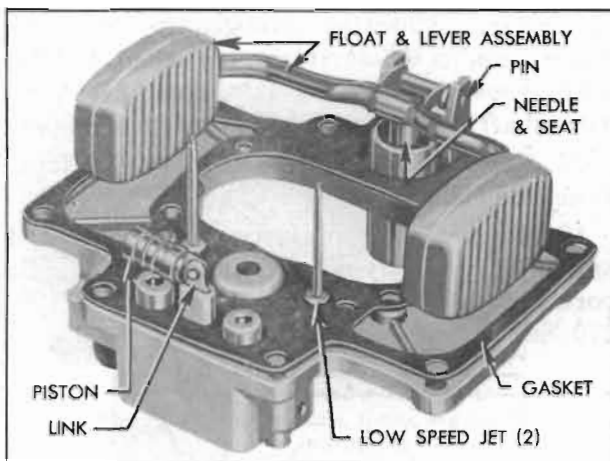

Figure 3-31—Parts Assembled on Bowl Cover
7. Swing vacuumer piston $\frac{1}{4}$ turn to remove it from piston link then remove link from bowl cover. See figure 3-31.
speed jets and a new bowl cover gasket and re-install float assembly. See figure 3-31.